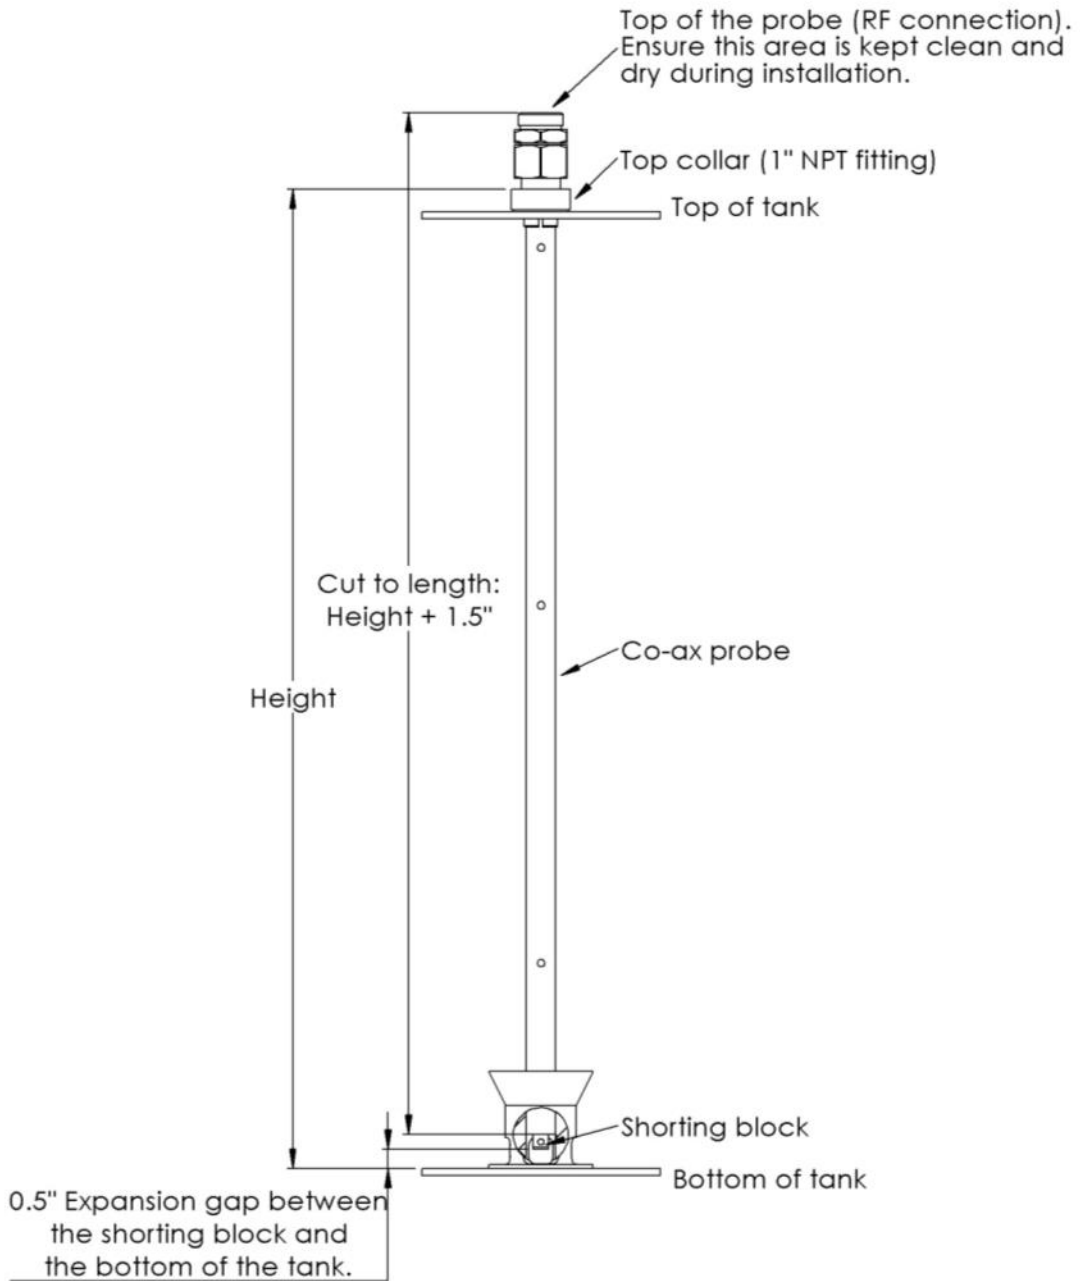
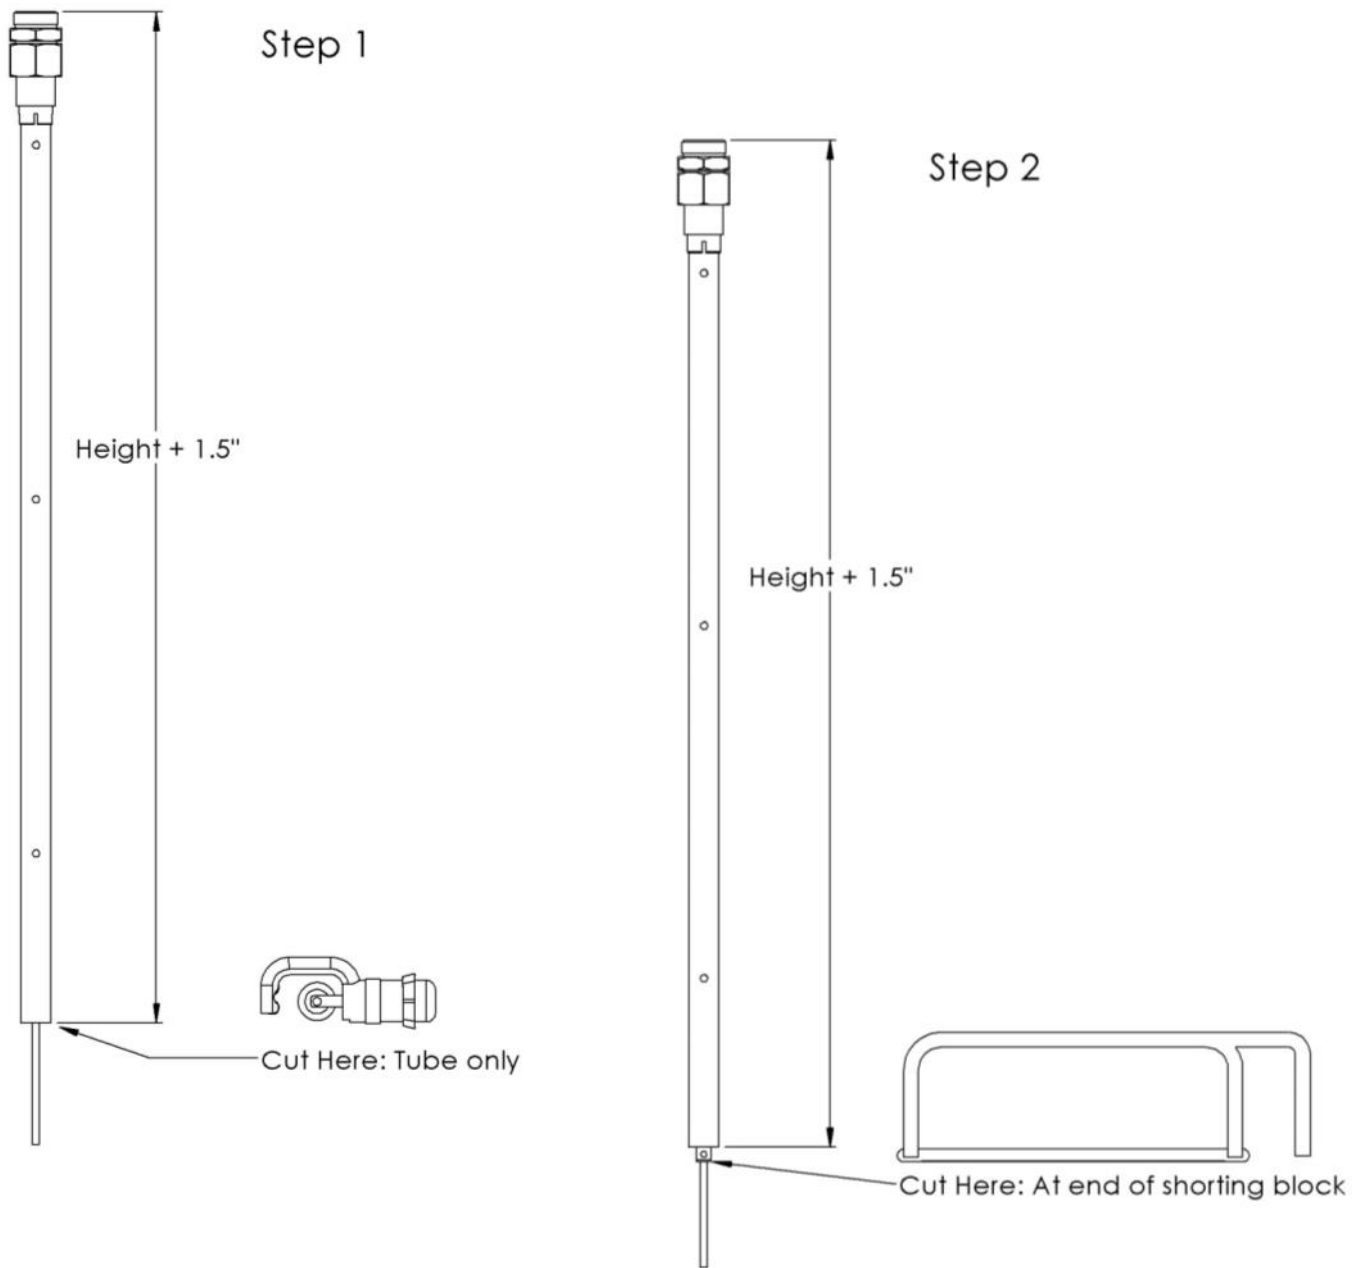

Figure 2-10: Coaxial Probe Measurement
Figure 2-11: Cutting the Coaxial Probe
1. Cut the Coaxial Probe to Length, See Figure 2-10 & Figure 2-11